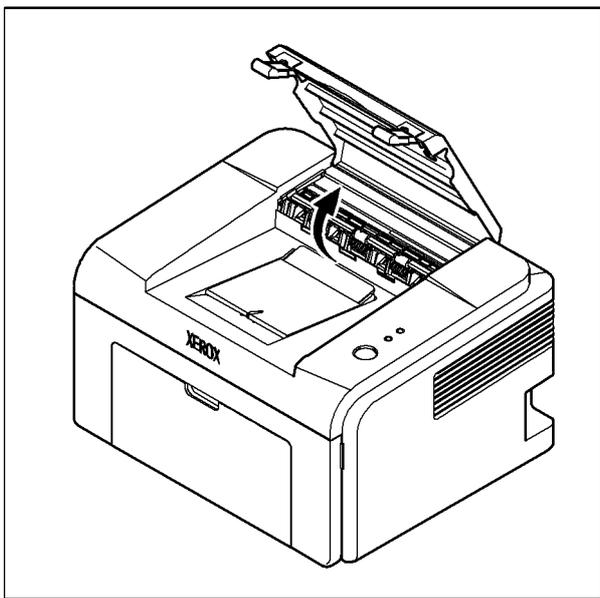

Figure 1
1. Open the exit cover, Figure 1.